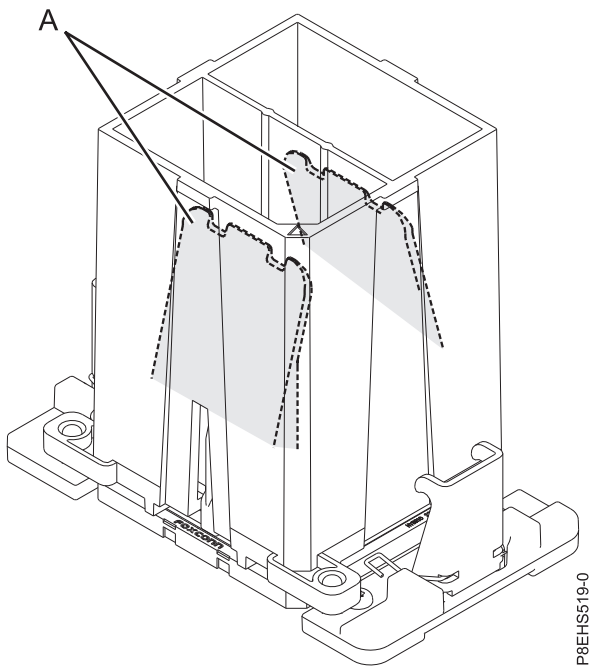

Figure 76. Removing the system processor module tool
- c. After the tool and system processor module holes and guide pins are properly aligned, squeeze and hold the two blue release tabs (A) together until a firm stop is reached, as shown in Figure 76. Then, lift the tool off the system processor module.